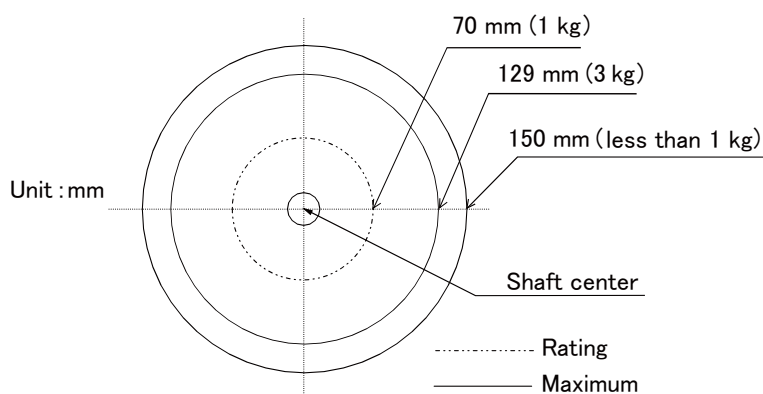
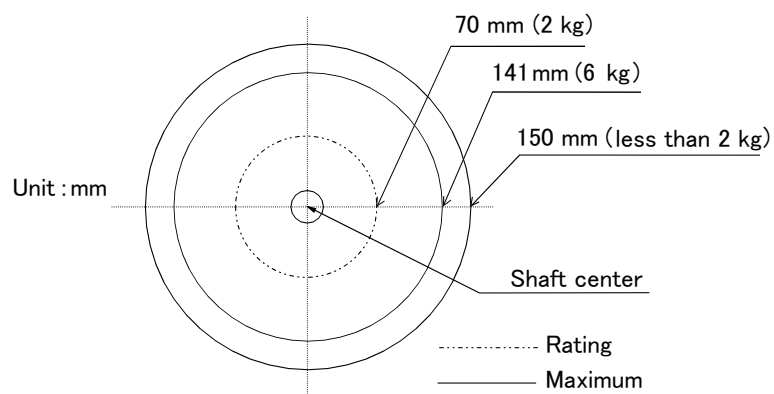

Fig.2-1 : Position of the center of gravity for loads (for loads with comparatively small volume): RH-3CH-S11/S15/S23/S24
Fig.2-3 : Position of the center of gravity for loads (for loads with comparatively small volume): RH-6CH-Sxx
(1) The tooling should have the value less or equal than the smaller of the allowable moment of inertia found in Page 8, "2.1.1 Basic specifications".
(2) Fig. 2-1 and Fig. 2-3 shows the distribution dimensions for the center of gravity in the case where the volume of the load is relatively small. Use this figure as a reference when designing the tooling.
Please use the robot in the allowable moment of inertia of maximum moment of inertia shown in Fig. 2-1 and Fig. 2-3.